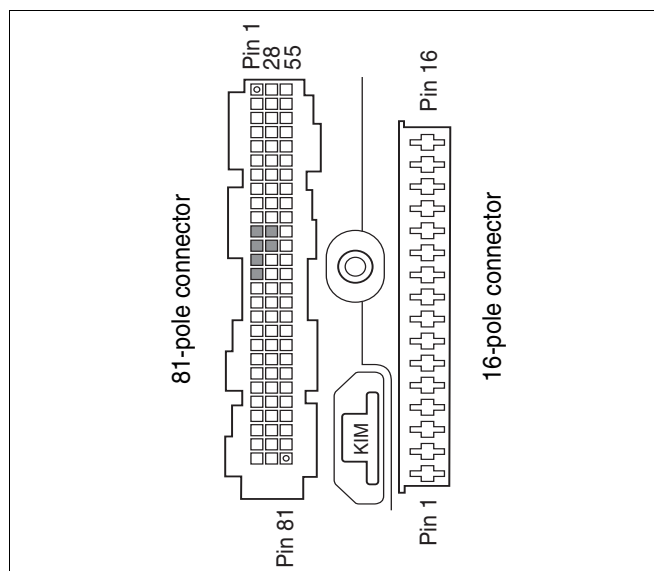

fig. 19 UBA 3 installation base
- Check the cable between the plug and socket connection and the 81-pole plug in the UBA 3 installation base (see fig. 19) using a circuit continuity testing device. See the electric circuit diagram, fig. 110 on page 126.